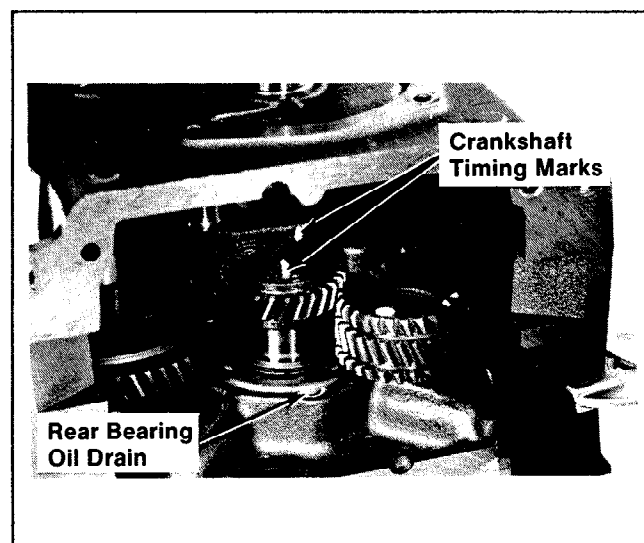

Figure 12-14. Aligning Crankshaft And Balance Gears.
2. Lubricate the crankshaft rear bearing surface. Insert the PTO end of crankshaft through rear bearing. "Straddle" the primary and secondary timing marks on crankshaft over the rear bearing oil drain (refer to Figure 12-14). Press the crankshaft into rear bearing until the crankgear is just above the camshaft gear but not in mesh with it.